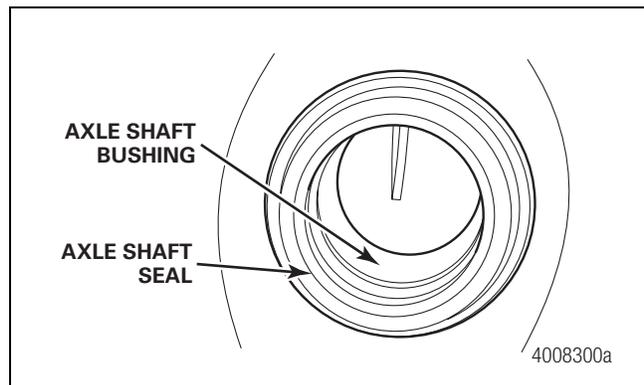

Figure 8.2
2. Use a seal driver and hammer to install the retaining seal into the housing. Figure 8.2.